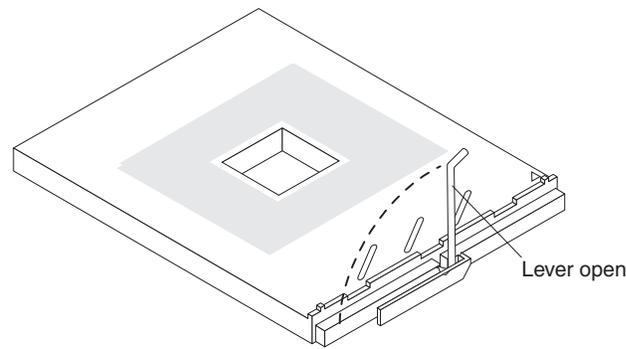

Figure 30. Opening the microprocessor-release lever
7. Lift the microprocessor-release lever (see Figure 30 on page 117) to the fully open position (90°).